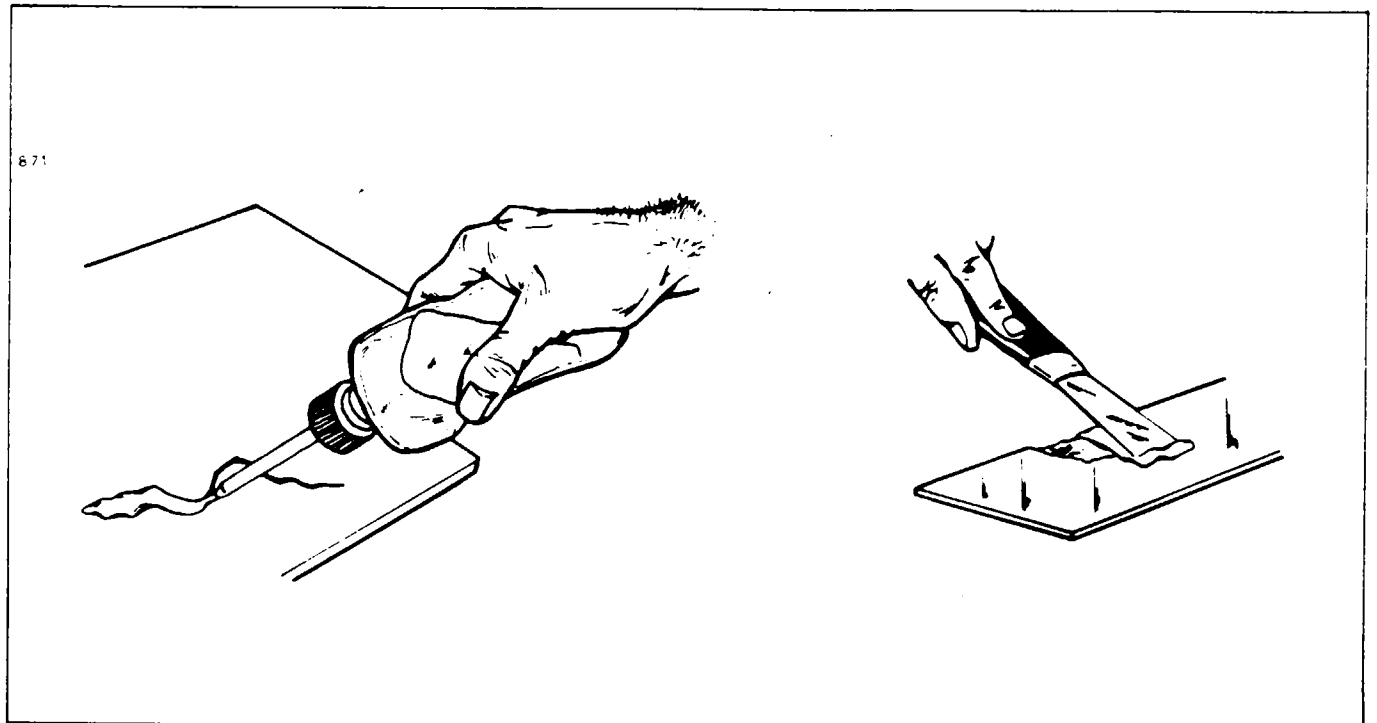

Figure 51-4. Deep Scratches, Shallow Nicks and Small Holes
3. Deep Scratches, Shallow Nicks and Small Holes: (Less than 1 inch in diameter.) (Refer to Figure 51-4.)